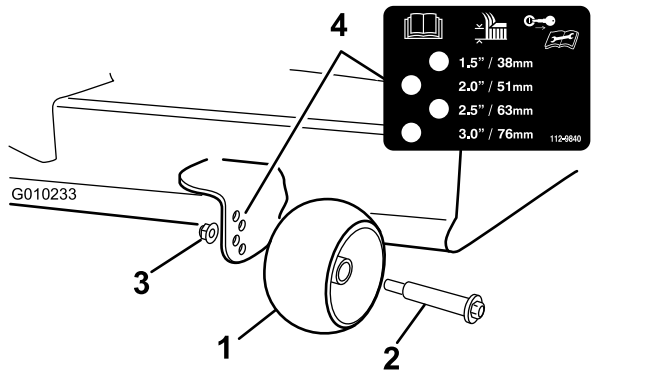

Figure 29
3. Adjust the anti-scalp rollers (Figure 29) to match the closest height-of-cut position.